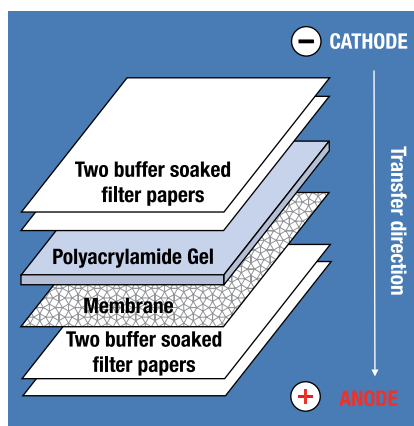

Figure 8.14. Blotting with a semi-dry transfer unit.
- 4 Assemble the transfer sandwich with the resolving gel on the anode (+) as shown in Fig.8.14. Use one sheet of blotting paper or two pieces of filter paper on each side of the sandwich. Make sure all air bubbles are removed since they will affect the efficiency of the electroblotting.